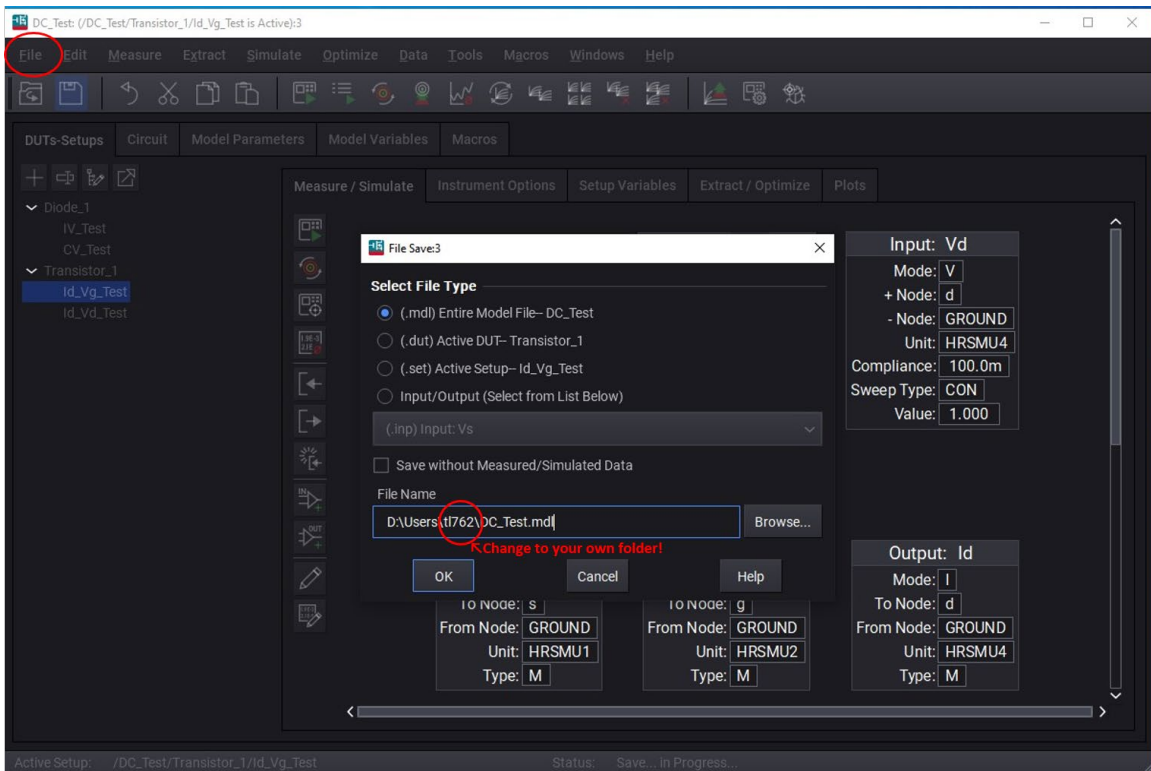

Fig. 8.11. Saving a "Test" project.
- 8.25 Save your project to your folder on the PC. IC-CAP will not auto-save your project. To save your project, click on "File" on the top menu of the "Test" home screen (Fig. 7.1). Click on "Save As," Fig. 8.11 pops up. It is recommended the "Select File Type" remains ".mdl" but "File Name" points to your own folder. Click on "OK" to save the project. if no more measurement will be done, exit IC-CAP by closing all windows. Sign out "User." Leave the PC on.